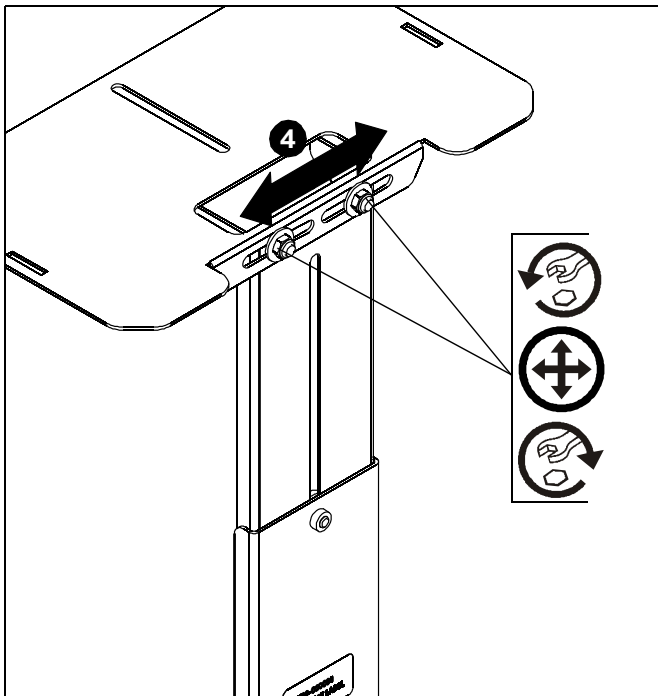

Figure 5
4. Adjust the shelf from side to side, if necessary, by loosening the two Nylock lock nuts, moving the shelf and tightening the lock nuts. (See Figure 5)